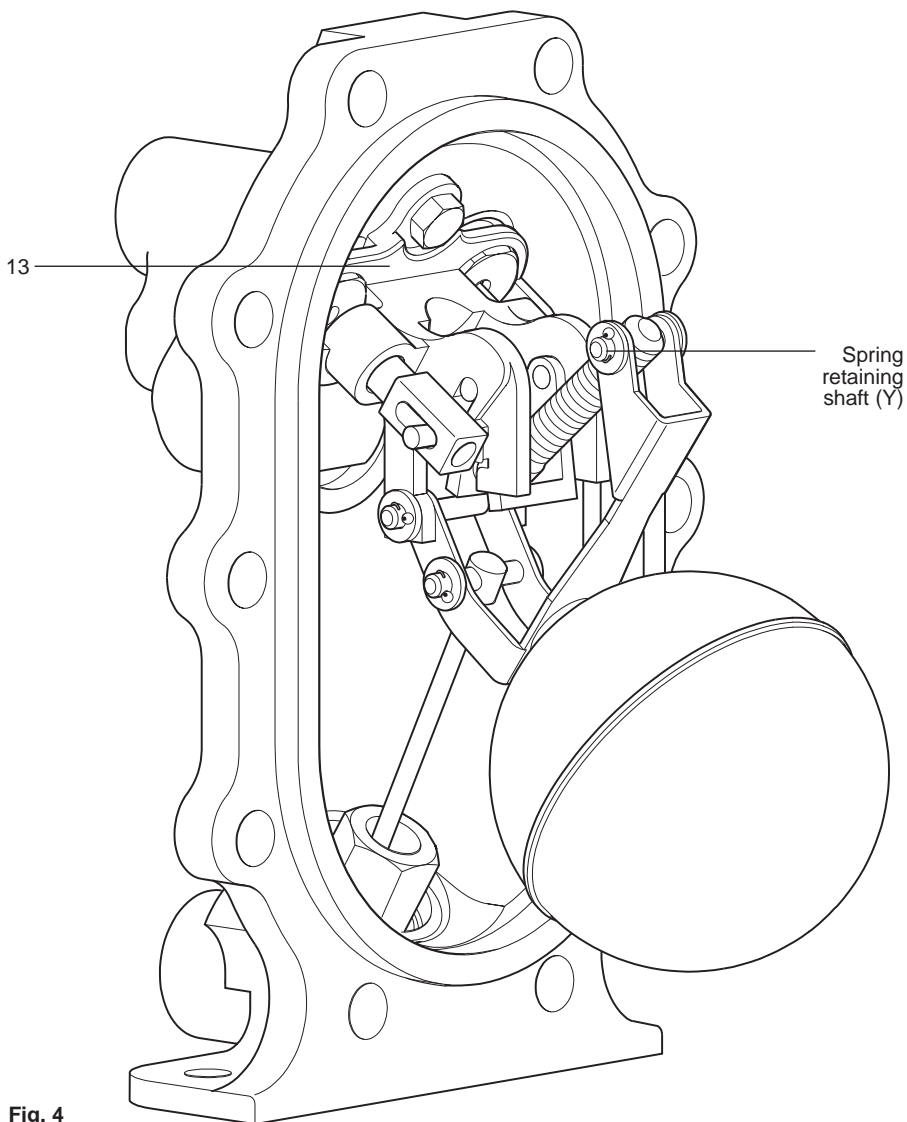

Fig. 4
19. Ensure the actuator is correctly aligned and located within the slots of the pump bracket (item 13).
21. Always use new split pins and washers when refitting the spring retaining shaft (Y) (30 mm long).
**Note:** The valve gear has been designed to be adjustment-free, simplifying the fitting of new parts. If after assembly the mechanism does not operate correctly, check all the parts are assembled and aligned as per Fig. 4.
25. Carefully reconnect the motive steam supply and the exhaust lines to the connections marked (S) and (E) and the condensate inlet and outlet to the connections marked (IN) and (OUT). The APT10-4.5 is now ready to recommission.